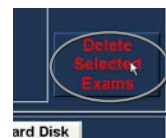

Figure 8.14 - Delete Selected Exams
2. Click on "Delete Selected Exams" as shown in Figure 8.14.